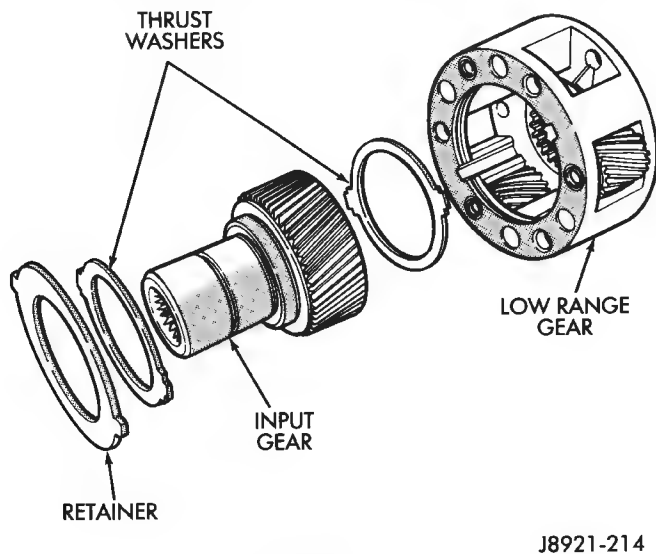

Fig. 31 Low Range Gear Disassembly
(44) Remove input gear retainer, thrust washers and input gear from low range gear (Fig. 31).